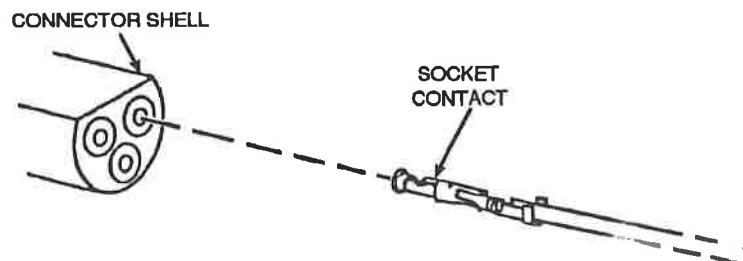

Figure 7
5. The DCU-1 "Pathfinder" display should look similar to the display shown in Figure 7. The numeric display in the lower left corner indicates the current bearing of your rotator. The numeric display in the lower right corner indicates the target bearing. If both displays read a steady "000", disconnect your control cable and check the cable wiring with an ohmmeter. Proceed if the cable checks OK.